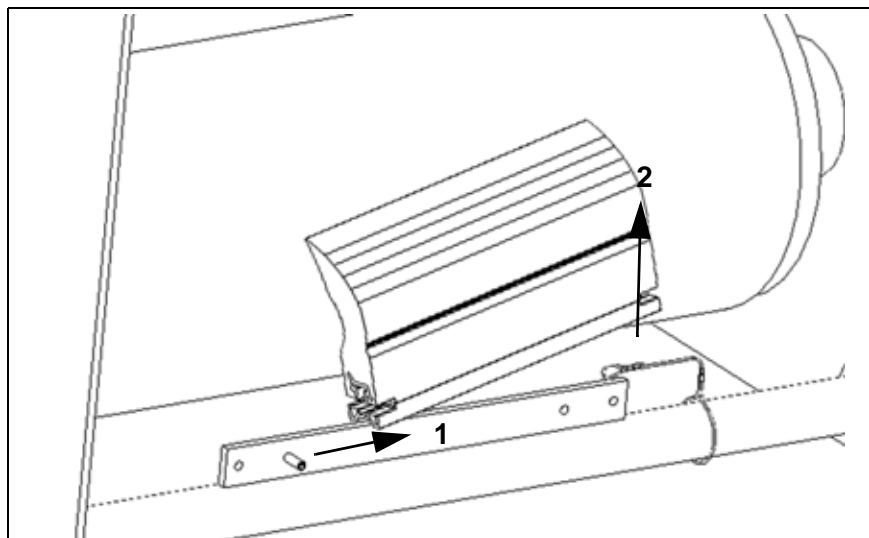

Fig. 10
5. Remove the blade from the hollow clamping pin (1, Fig.10).
6. Remove the blade from the mainframe (2, Fig. 10).